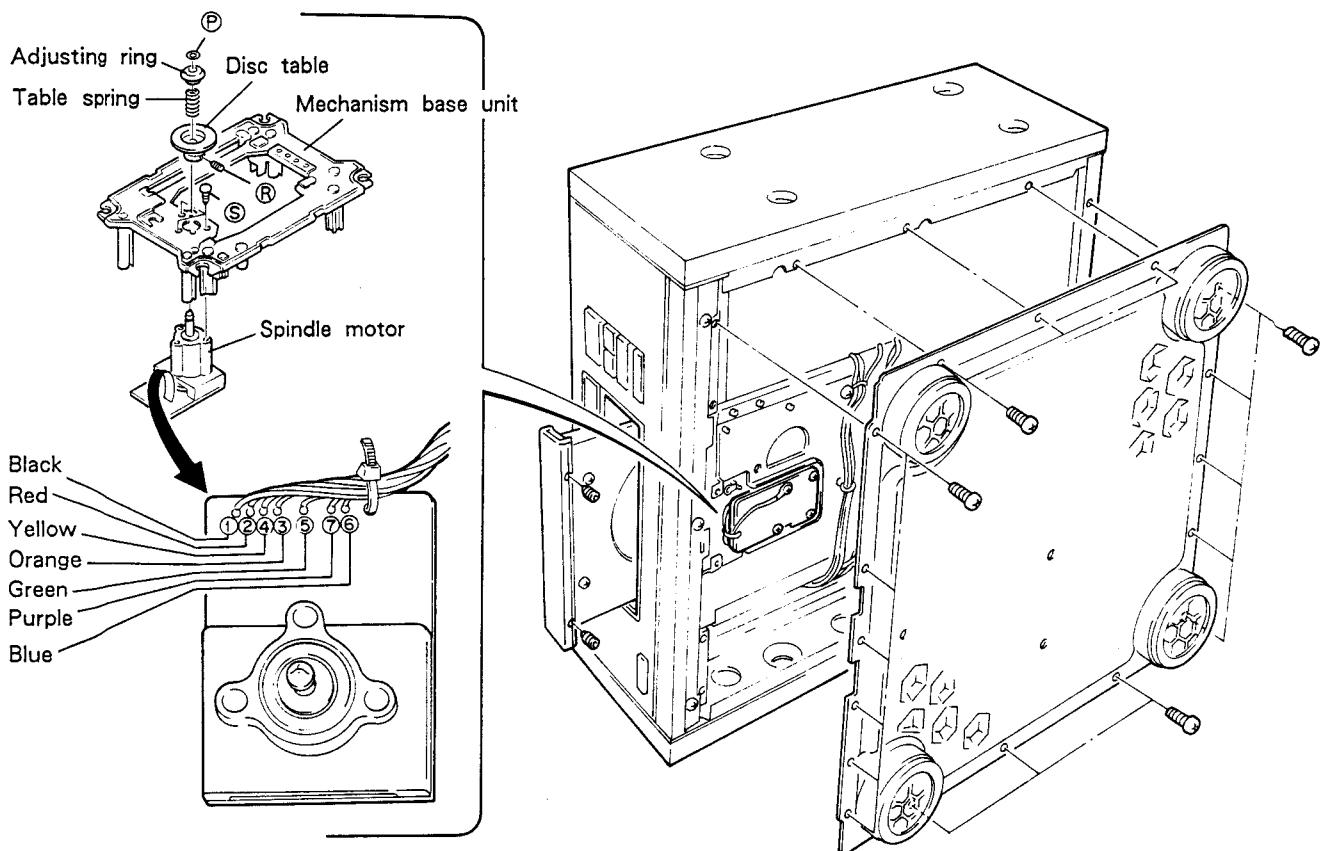

Fig. 2-5.
2. Remove the split washer \textcircled{P} fixing the adjusting ring. (Refer to Fig. 2-5.)
5. Remove the fixing screws \textcircled{S} (3) of the spindle motor.
6. Remove the lead wires (7) wired as shown in Fig. 2-5, with a soldering iron.